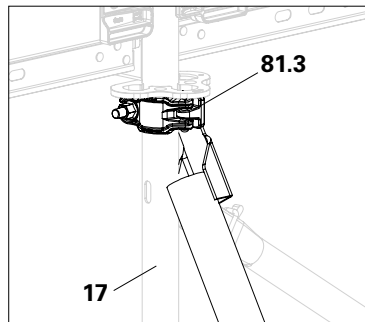

Fig. C4.04a
2. From the first scaffold level, fit the top coupling (**81.3**) onto the outer standard (**17**). Push the coupling as close as possible to the rosette and tighten. (Fig. C4.04a)